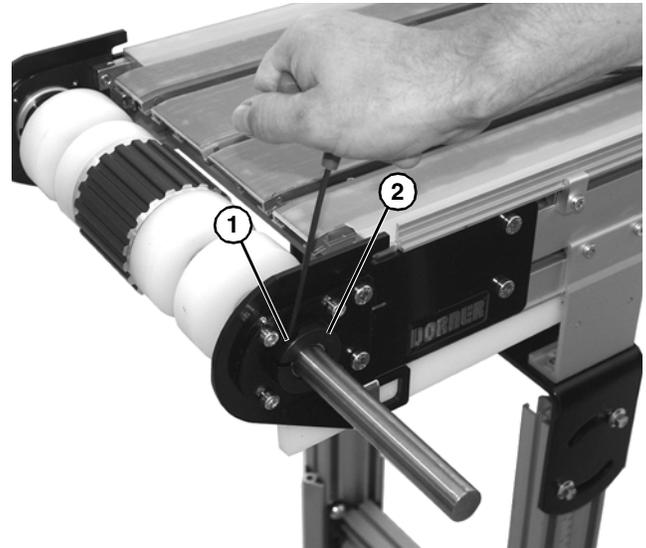

**Figure 36**
2. Remove four shaft cover screws (**Figure 36, item 1**). Remove the shaft cover (**Figure 36, item 2**).